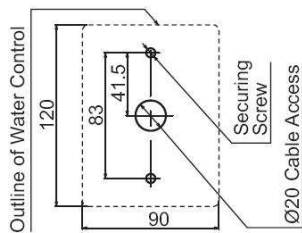

Fig. 1
2. Drill 3 holes in the wall (Fig.1), one for the cable and two for the securing screws. Fit wall plugs if needed and ensure controller is level.
2. Remove the protective cap from the 3 pin connector marked EZ Connect located in the wiring harness of the Primary Unit. (Fig. 1)
4. Check gas type dip switches no.1 and no.2 of SW2 are in the correct position for the type of gas used. See Fig. 1